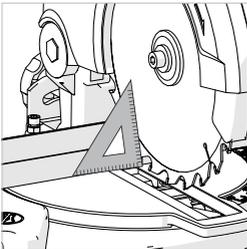

Fig. 8
- Place the Set Square on the table with one short edge against the table and the other short edge against the blade (avoiding the TCT tips). **(Fig. 8)**